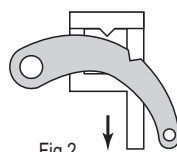

Fig.2
The jack should have a minimum load of 50 kg (110 lbs) for regular lowering; otherwise, the lifting nose will slip. Taking every necessary precaution: lift the load with the jack (i.e. slightly lift the load) and après checking that the handle is in the **MAXIMUM UPPERMOST** position, disengage the reversal hook (20), to place it in lower position "Down", i.e. the hook's indentation disengages from the reversal button's groove (see figure 2); while firmly holding the handle, pump in the same way as for lifting a load.